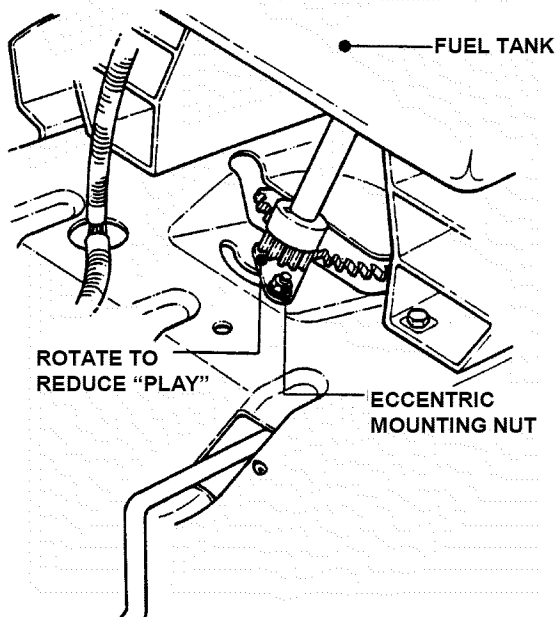

FIGURE 4.19
2. From left side of tractor, locate the steering sector below fuel tank. See Figure 4.19.
3. Loosen the eccentric mounting nut and rotate the eccentric clockwise until steering "Play" is reduced. See Figure 4.19.